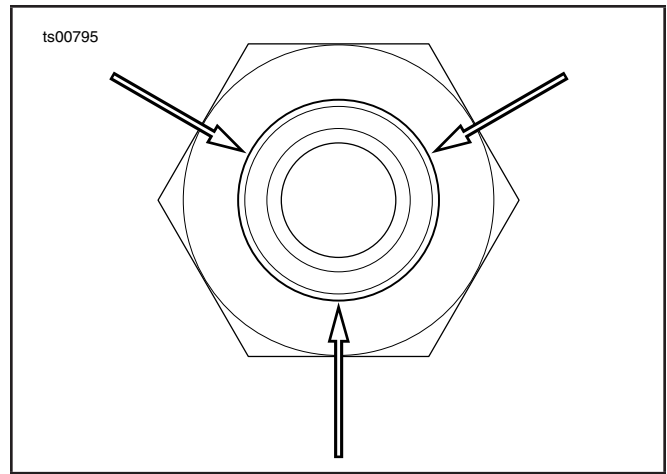

Figure 5. Three dots of Loctite 246 Threadlocker Medium Strength/High Temperature.
3. See Figure 5. Apply three dots of Loctite 246 Threadlocker (blue) Medium Strength/High Temperature equally spaced around the circumference of the bottom third of threads.